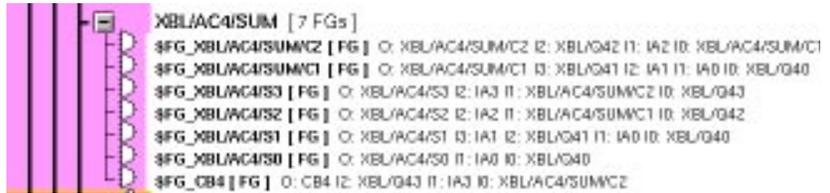

Figure 4-24 Expanded Macro in the Design Window
1. Expand a node in the Design window to show all of the symbols under that hierarchy. Figure 4-24 shows an example of an expanded macro..